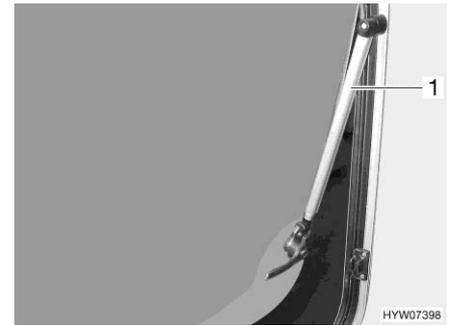

Fig. 58 Hinged window with automatic hinge
- Open the hinged window to the desired latched position. The automatic hinge (Fig. 58,1) locks in place automatically.